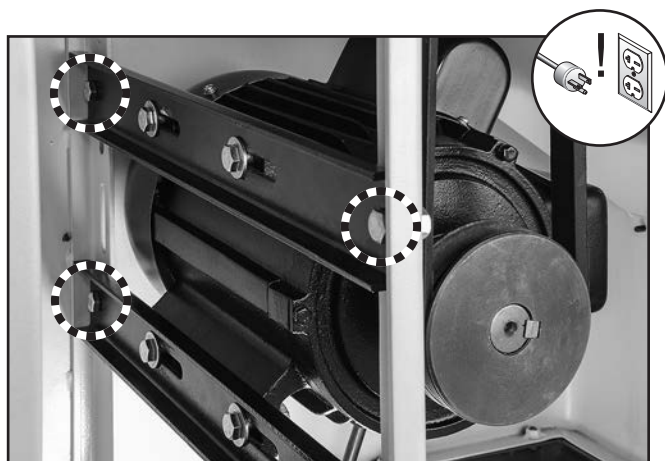

Figure 75. Location of motor mount bracket fasteners (3 of 4 shown).
3. Loosen motor mount bracket fasteners shown in **Figure 75**.
6. Tighten motor mount bracket fasteners (see **Figure 75**), and replace cabinet rear access panel.